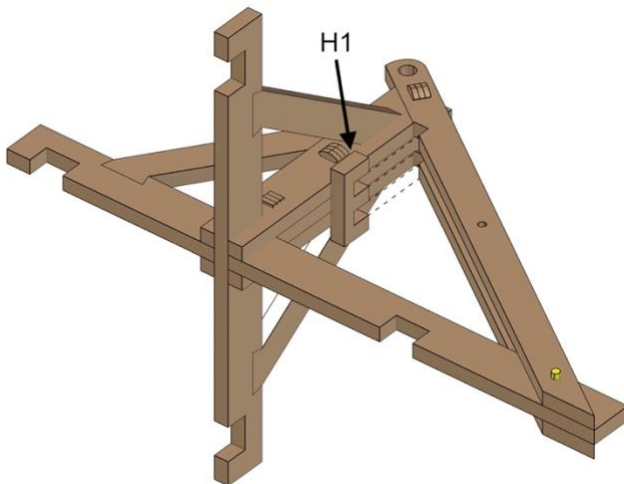

Fig. 51
- Align parts exactly as shown in *Fig. 51*.